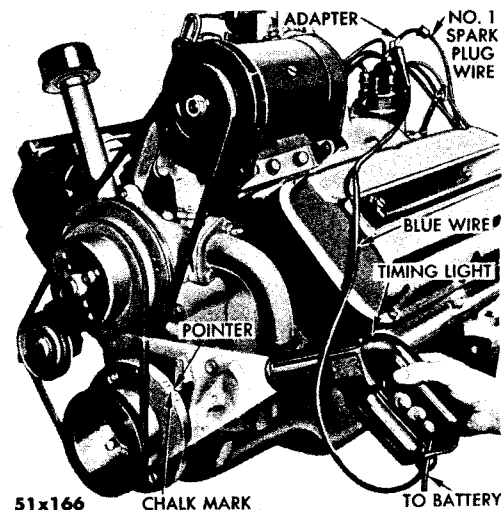

Fig. 29 — Timing Light (Typical Procedure)
- (1) Place chalk mark on vibration damper indicating specified number of degrees.
- (2) Insert male end of adapter, Tool C-3066, into No. 1 distributor tower and insert No. 1 spark plug wire into female end of adapter as shown in Figure 29.